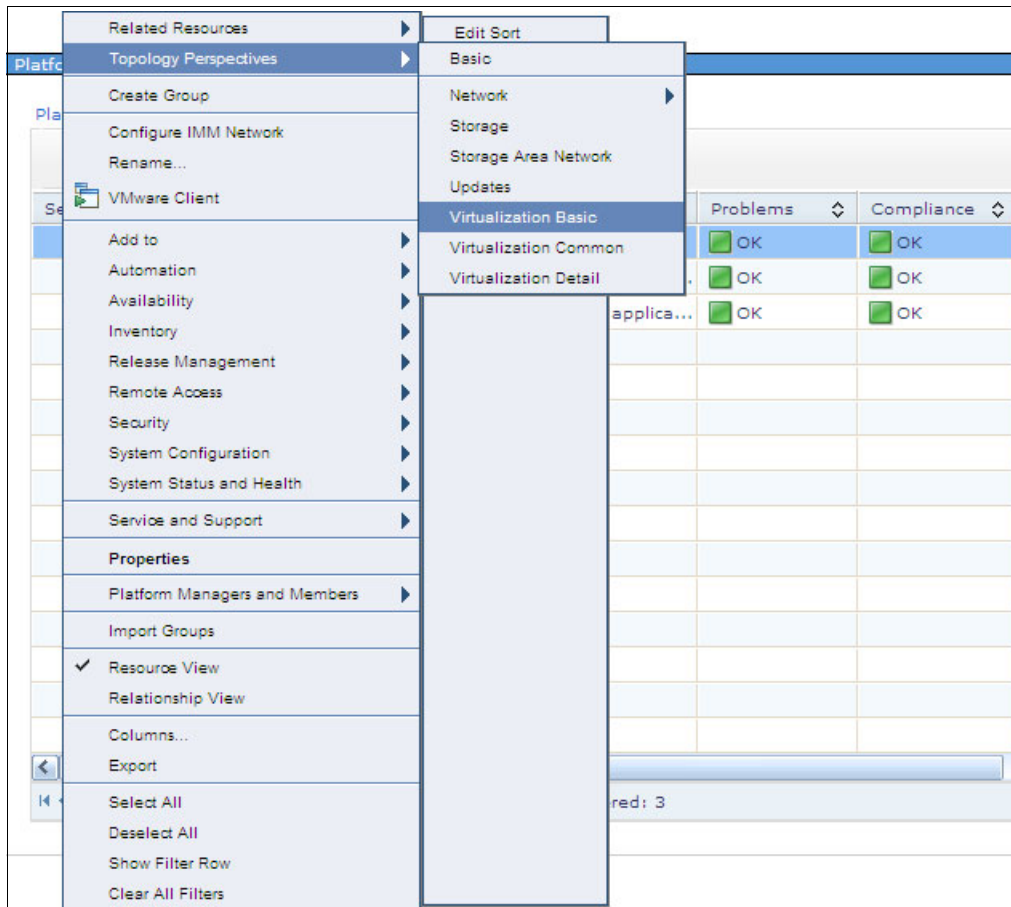

Figure 11-62 Virtualization Basic menu item in Platform Managers and Members window
2. Click **Actions** → **Topology Perspectives** → **Virtualization Basic**, as shown in Figure 11-62.